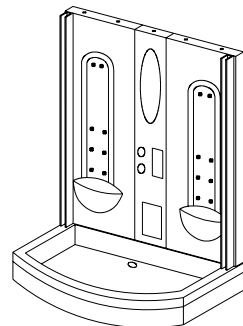

Fig.3
3. Install the wall。 Put the wall on the bathtub, and then join the wall with the bathtub by bolts at the corresponding holes. Notice: Install the gaskets and the nuts, but don't tighten them. As fig.3